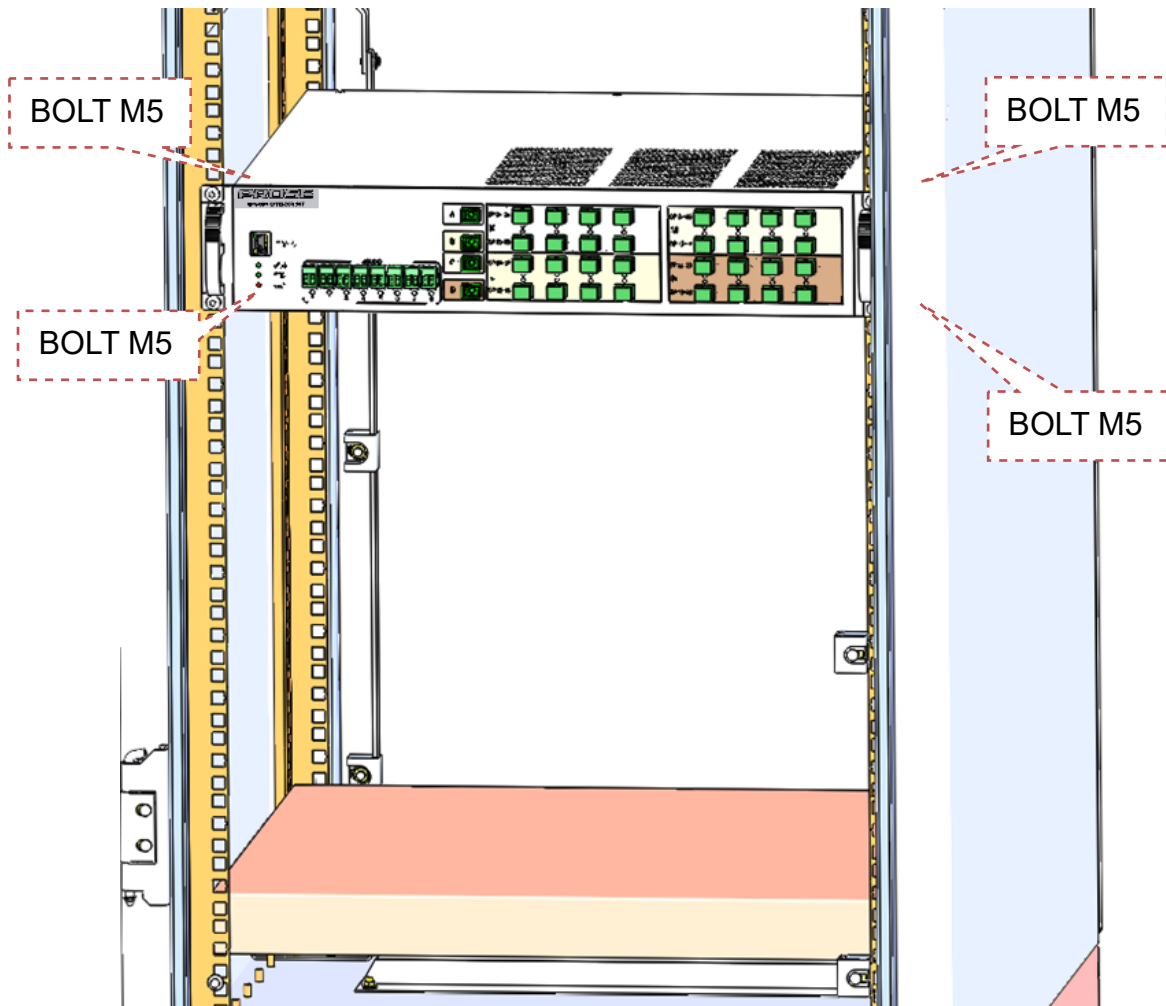

Figure 3-12
2. Push NEU into the cabinet and use screw to mount NEU reference to Figure 3-12.